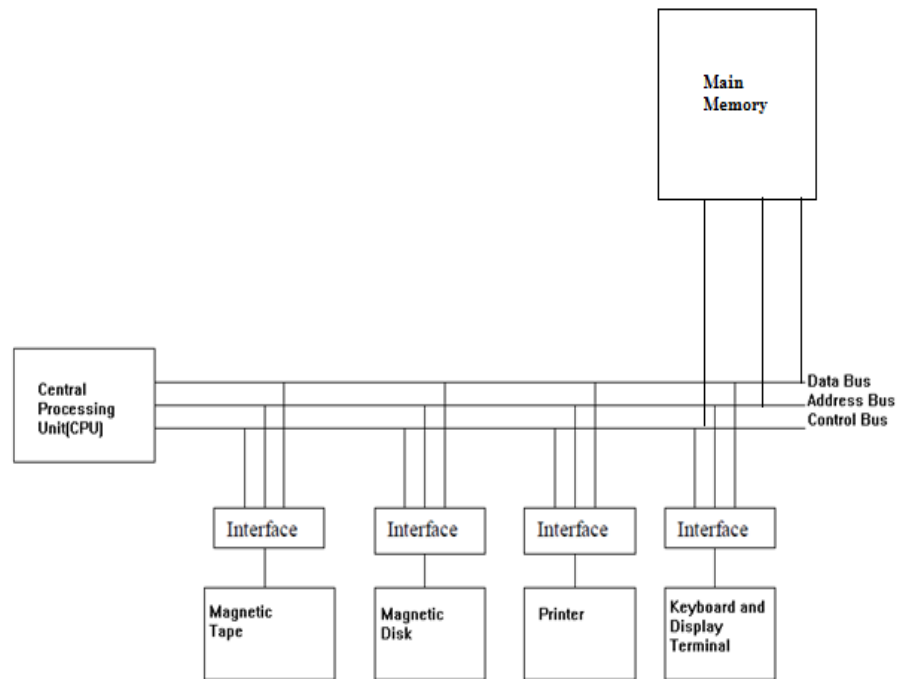

Figure 9 : Interconnection of CPU and Peripheral Devices using Common Address, Data Bus Control Bus
3. The third alternative is to use all the buses i.e., data, addresses and control bus to connect the CPU with peripheral and memory. The same is shown below in Figure 9.